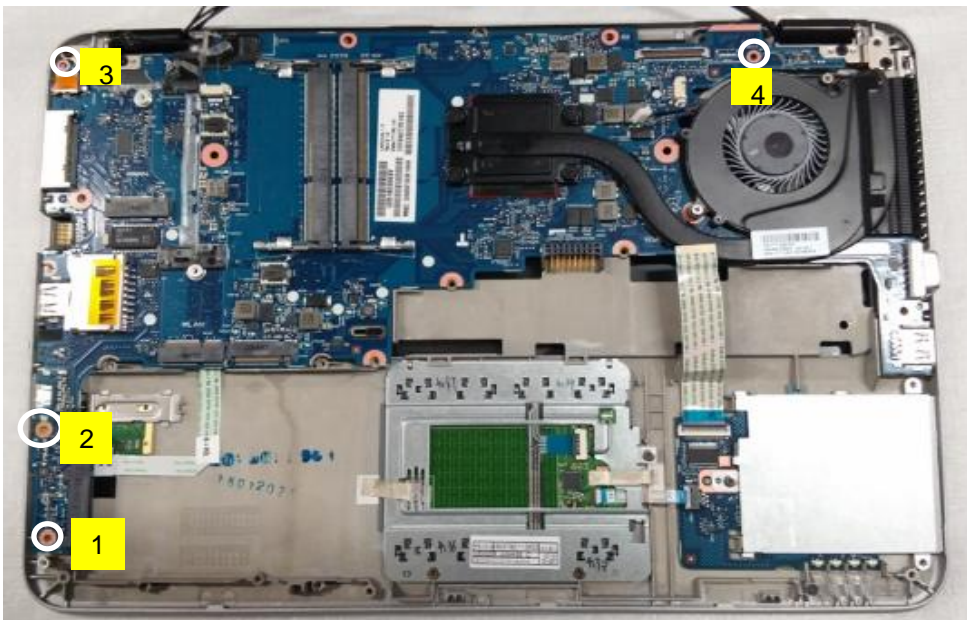

Fig.2
2. Loosen M/B screw*4, then remove M/B.(Fig.2)